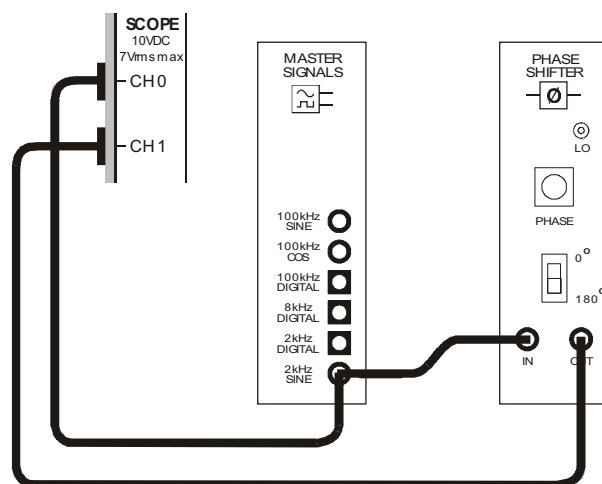
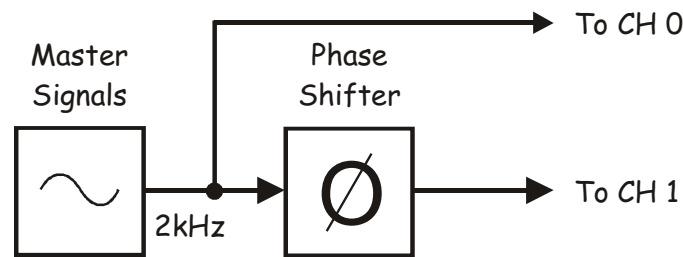

Figure 3
Figure 4
37. Connect the set-up shown in Figure 3 below.
The set-up in Figure 3 can be represented by the block diagram in Figure 4 below.